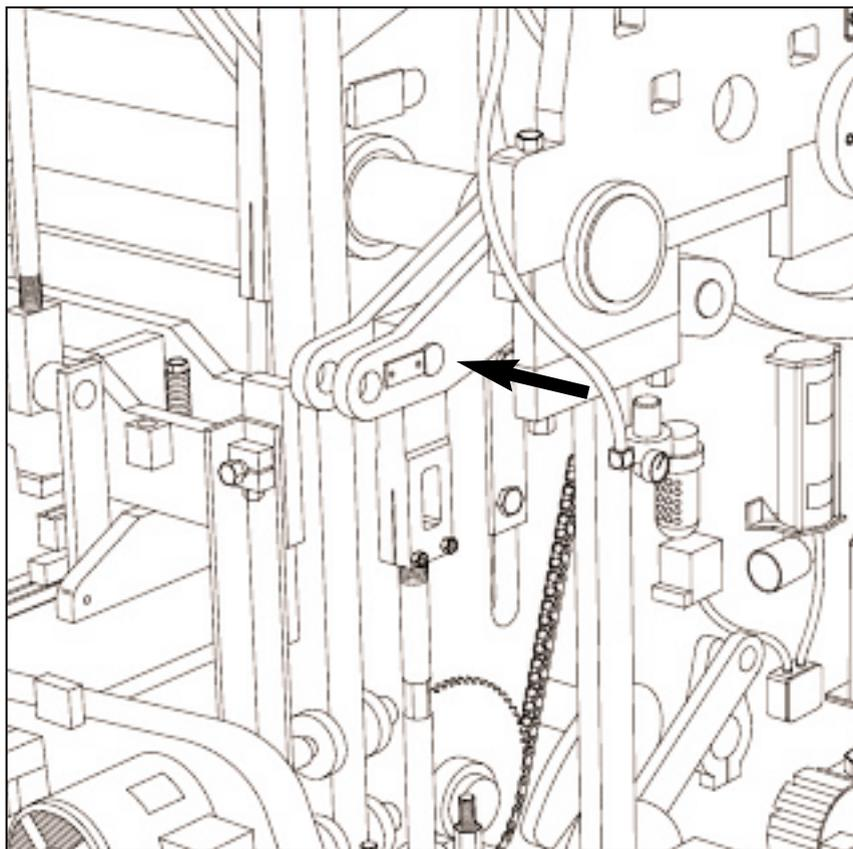

Figure 4.1 PALLET RECEIVER SHAFT POSITION.
- 4.1.1 The following items should be positioned as shown in figures 4.1 and 4.2:
- a. Pallet receiver shaft - position pins in inside holes (short stroke)(see figure 4.1 below).